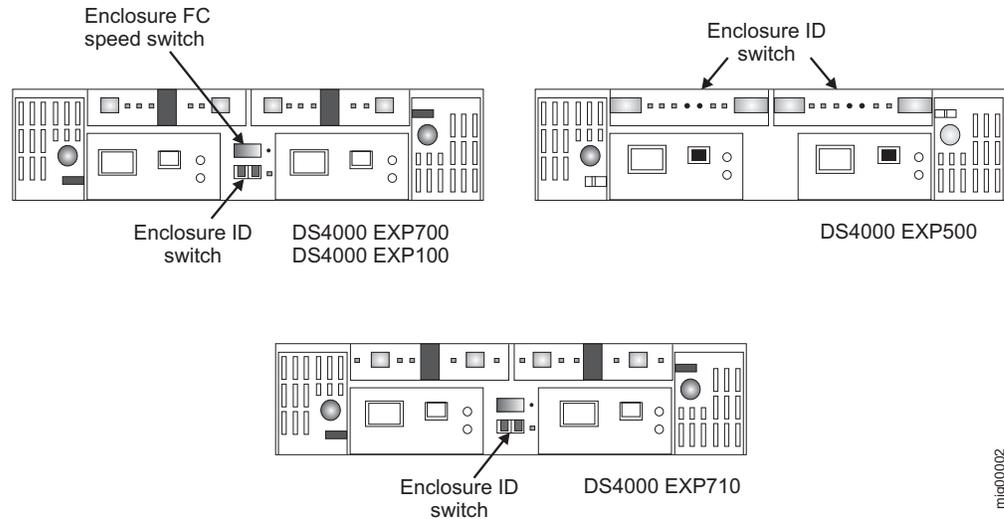

Figure 21. EXP100, EXP500, EXP700, and EXP710 enclosure ID and speed switches
- ___ Step 4. Set the enclosure ID of the additional storage expansion enclosures. Each drive enclosure in the DS4000 Storage Server drive loop must have a unique drive enclosure ID. In a EXP500 storage expansion enclosure, there is an enclosure ID switch mounted on each of two ESM canisters. Set each ESM canister’s enclosure ID switch in the EXP500 drive enclosure to the same unique number in the drive loop. In a EXP700 storage expansion enclosure, the only enclosure ID switch is mounted between the power supplies. See the appropriate *DS4000 storage expansion unit installation and user’s guide* for additional information. Figure 21 on page 63 illustrates the location of speed switches on the EXP100, EXP700, EXP710, and EXP500 storage enclosures.